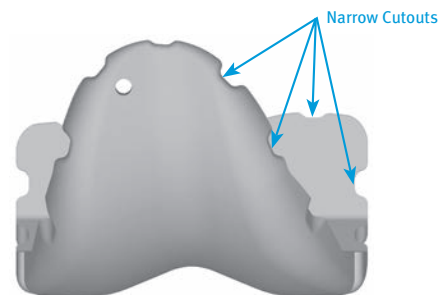

Fig. 69b
- Femoral sizes 3 through 11 are provided in two profiles, Standard and Narrow. The size 3 through 11 Standard Femoral Provisionals have intermittent cutouts around the periphery, with the inner dimension representing the outer profile of the Narrow femoral implant and the outer dimension representing the outer profile of the Standard femoral implant (**Fig. 69b**). Femoral sizes 1 and 2 are provided in one profile, Narrow; and femoral size 12 provided in one profile, Standard. Thus the size 1, 2 and 12 Femoral Provisionals do not have intermittent cutouts. Care should be taken to use the appropriate Standard or Narrow implant as is related to side (left or right) and size based on the provisional fit and ROM provided during the trialing phase.